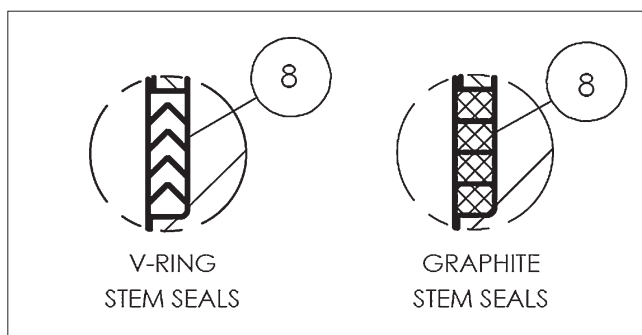

Figure 7. Stem Seal Orientations
13. Insert stem subassembly through the stem retainer (8) and install packing. (Refer to **Figure 7** for proper orientation of packing). Install gland follower (9) (bevel side up) over the stem and slide down to touch packing. **NOTE:** On 10" (DN 250) and larger valves the gland follower and compression plate are one piece.